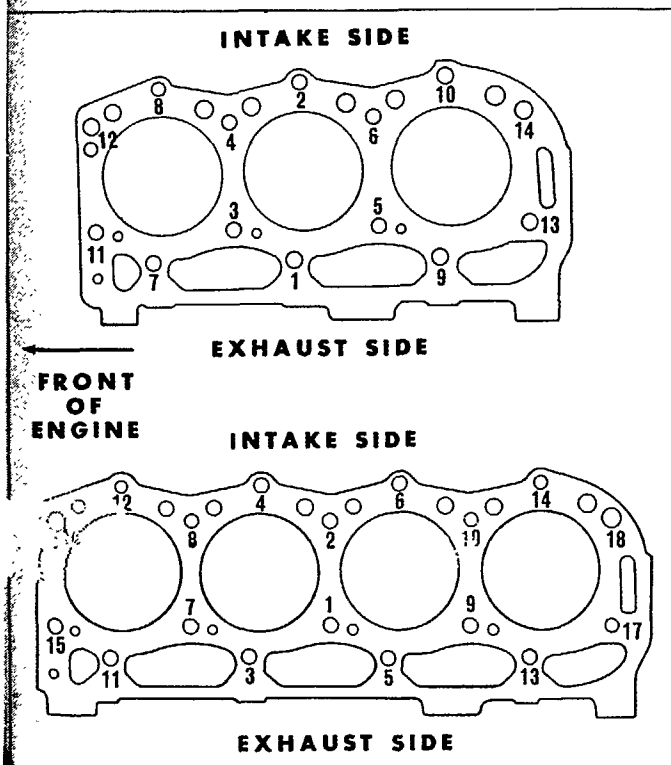

Figure 22
5. Tighten the cylinder head bolts in the proper sequence, as shown in Figure 22. Tighten the bolts progressively in three steps; First to 80 lbs. ft. (11.04 m.k.g.); then to 90 lbs. ft. (12.42 m.k.g.), and finally to 100 lbs. ft. (13.8 m.k.g.), page 68.